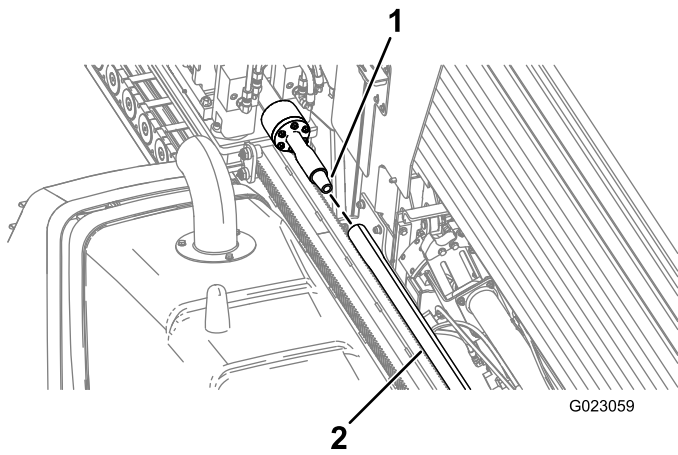

Figure 29
6. Rotate the drill spindle clockwise and move the carriage slowly forward to insert the spindle into the female end of the pipe (Figure 29).
9. Rotate the drill spindle clockwise and move the carriage slowly forward to insert the spindle into the female end of the pipe (Figure 29).